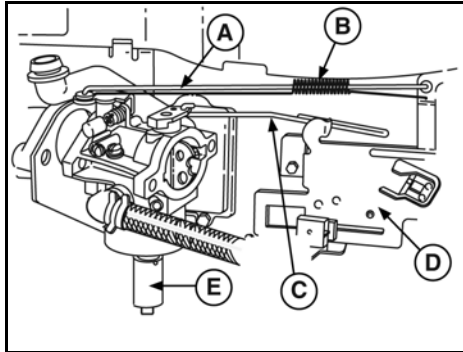

Figure 71
2. Hook governor link spring (B, Figure 71) in non-grommet throttle lever hole.
3. Hook governor link (A) in grommet throttle lever hole. Link fits over top of lever.